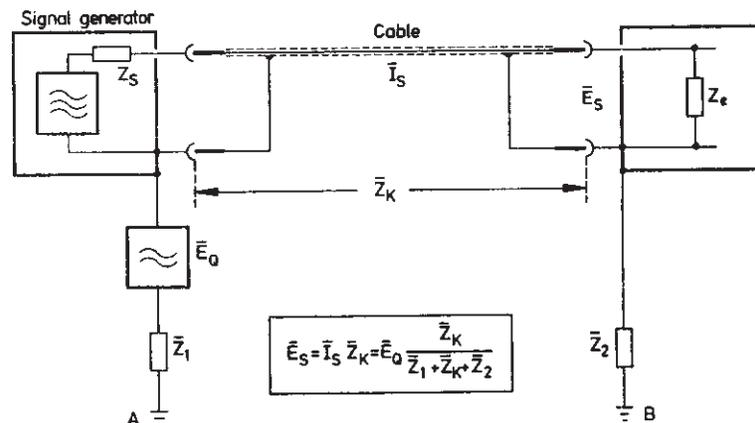

Fig. 2-4 Simplified equivalent diagram of noise voltage source
**Noise voltage sources:** Two types of noise voltage are distinguished by their sources: noise voltages developing from hum pickup and noise voltages caused by inductive leakage. Fig. 2-4 illustrates the development of a noise voltage. The noise voltage  $E_s$  is effective at the load input if the noise current  $J_s$  on the outer conductor of the cable with an impedance  $Z_K$  causes the voltage drop  $E_s = J_s Z_K$ . The noise voltage source  $E_Q$  is somewhere in the noise voltage loop formed by  $Z_1$ ,  $Z_K$  and  $Z_2$ .
The noise voltage source  $E_Q$  may exist between the earthing points A and B if the neutral conductor of the AC supply is at the same time used as a non-fused earth conductor. If the signal generator and the test item are earthed at different points of the AC supply, the voltage drop between A and B (Fig. 2-4) may also be caused by the power consumption of a third load. Noise voltages of a frequency of 50 Hz and its harmonics then result. The noise source can be avoided by minimizing the distance between points A and B (twin socket). Noise voltages can be induced in the hum-pickup loop  $Z_1, Z_K, Z_2$  by inductive leakage of power transformers or poorly shielded RF voltage sources. These noise voltages can be prevented by making the pickup loop as short as possible by suitable wiring.